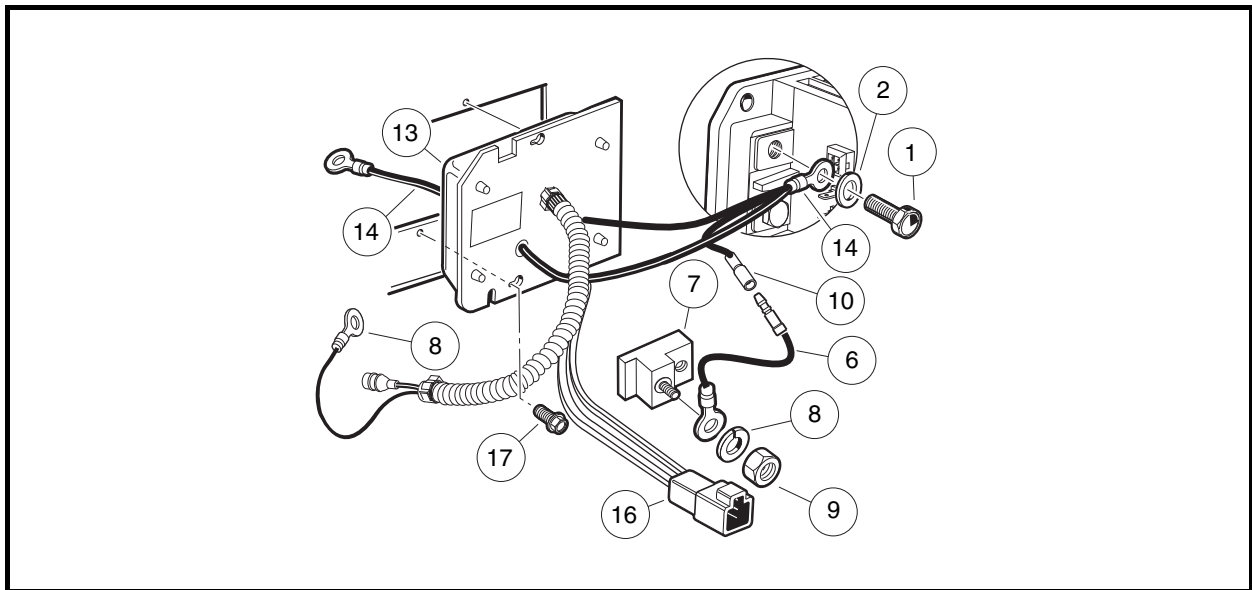
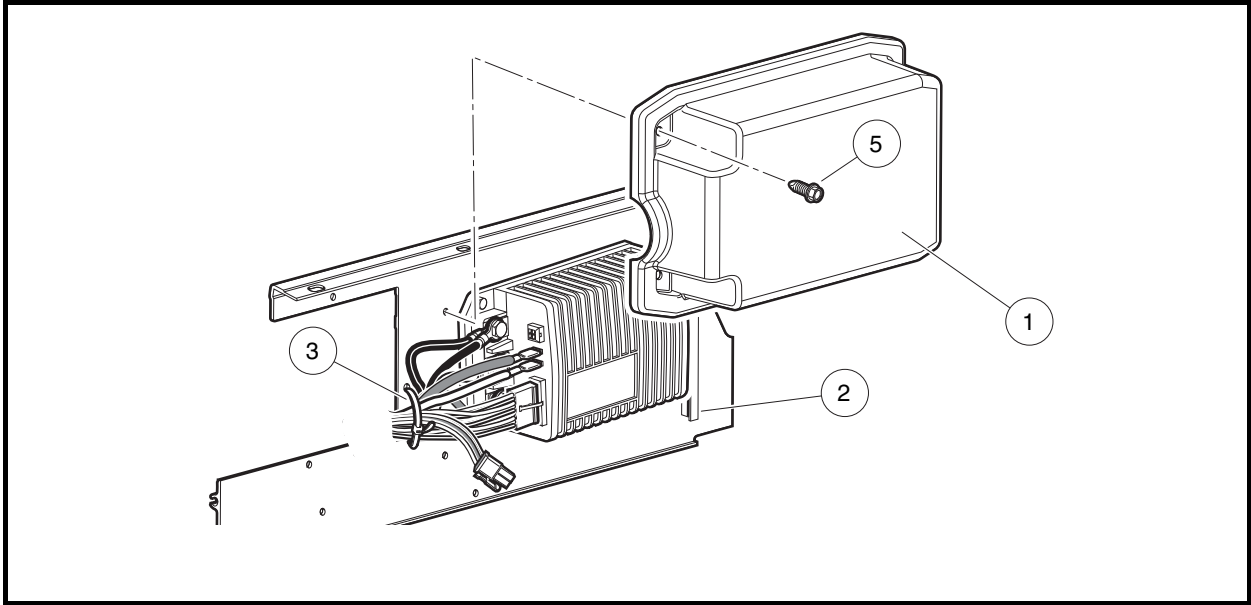

Figure 13-9 Onboard Computer
Figure 13-10 Speed Controller Cover
2. Remove rear body access panel and unplug the six-pin connector (16) at the OBC (**Figure 13-9, Page 13-9**).
3. Remove the two screws (5) from the speed controller cover (1) and remove the cover (**Figure 13-10, Page 13-11**).
4. Remove the wire tie (3) securing the speed controller wires to the mounting plate.
5. Remove black 6-gauge wire (14) from the speed controller B- terminal (**Figure 13-9, Page 13-9**).
7. Disconnect the black 10-gauge wire (8) at the charger receptacle.
9. Loosen, but do not remove, the two self-tapping screws (17) holding OBC to component mounting plate.
10. Slide OBC towards outside of vehicle and align heads of self-tapping screws (17) with the two holes in the OBC face plate. Pull OBC towards rear of vehicle and remove from component mounting plate.
3. Install the OBC onto the component mounting plate by aligning the two holes on the OBC face plate with two holes on component mounting plate. Slide OBC towards inside of vehicle and align heads of self-tapping screws (17) with smaller part of two holes in OBC face plate (**Figure 13-9, Page 13-9**). Tighten screws to 60 in-lb (6.7 N·m). **See following NOTE.**
4. Secure the OBC wire harness (consisting of the black 10-gauge wire (8) and the gray wire fuse holder) to the I-beam with wire ties (**Figure 13-9, Page 13-9**).
5. Connect the black 10-gauge wire (8) to the charger receptacle (**Figure 13-9, Page 13-9**). Tighten to 23 in-lb (2.6 N·m).
7. Connect the black 6-gauge wire (14) to the speed controller B– terminal with the washer (2) and bolt (1) and tighten to 9 ft-lb (12.2 N·m) (**Figure 13-9, Page 13-9**).
8. Plug the six-pin connector (16) from the OBC into the vehicle wire harness.
9. Install a wire tie (3) to tightly secure the speed controller wires to the component mounting plate (**Figure 13-10, Page 13-11**).
10. Place the edge of the speed controller cover (1) into the slot (2). Press the controller cover onto the component mounting plate over the speed controller and install the two screws (5) (**Figure 13-10, Page 13-11**). Tighten the screws (5) to 60 in-lb (6.8 N·m). **See following NOTE.**
- Place the edge of the speed controller cover (1) into the slot (2). Press the controller cover onto the component mounting plate over the speed controller and install the two screws (5) (Figure 13-10, Page 13-11). Tighten the screws (5) to 60 in-lb (6.8 N·m). See following NOTE.